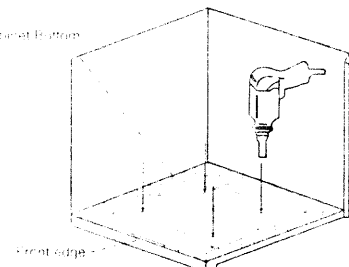

Figure 2
- Drill four 1/4" holes through the template and the bottom cabinet in the locations marked "Drill 1/4" Hole Here". <See Figure 2>